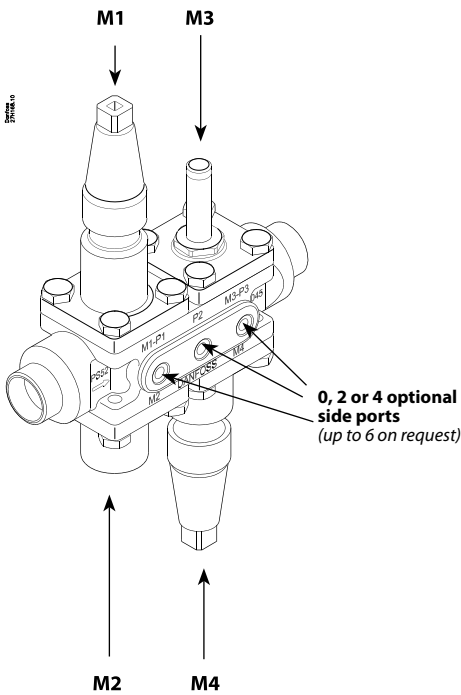

Fig. 6
1. Remote shut down via digital input R1 and R2. See fig. 6